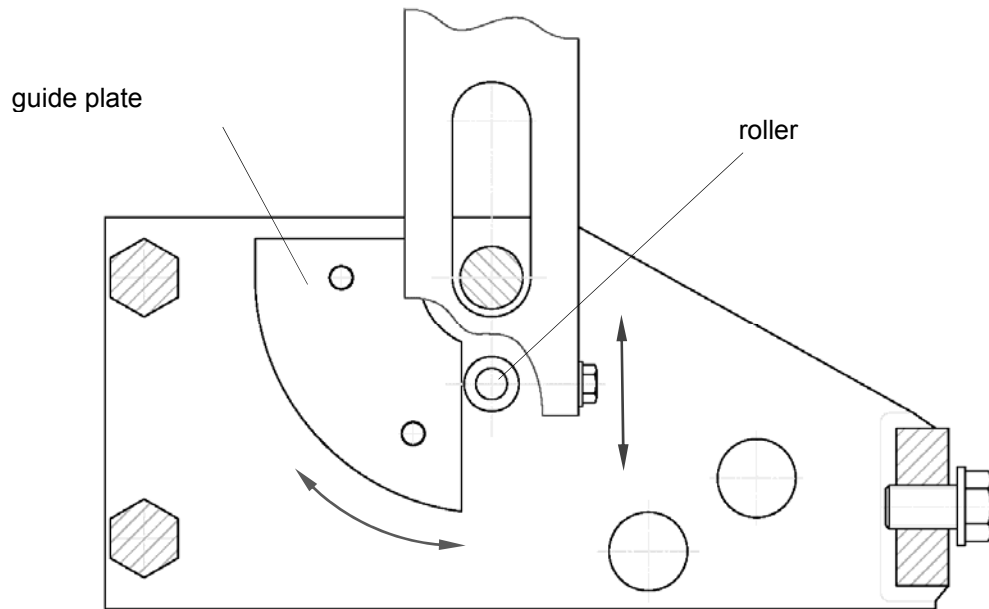

Figure 19 Adjustment of earthing switch –guide plate
- 7.7.3 Remove the upper clamping covers 334 from the coupling pieces 335 and, from below, slide the interlocking components onto the operating shafts 43 in the following order (Figure 19):